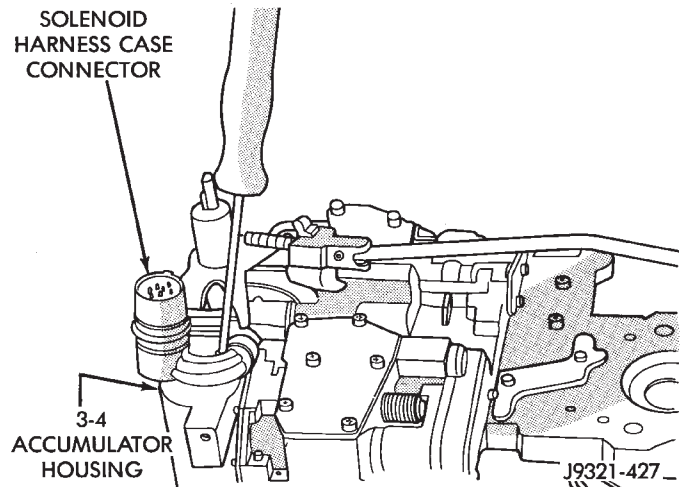

Fig. 95 Removing/Installing Solenoid Harness Case Connector Shoulder Bolt
(7) Remove small shoulder bolt that secures solenoid harness case connector to 3-4 accumulator housing (Fig. 95). **Retain shoulder bolt. Either tape it**